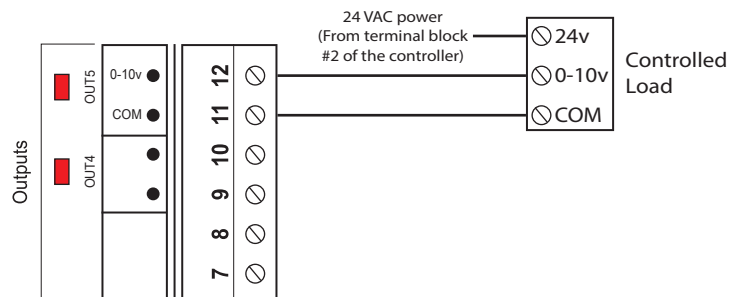

Figure 14 - Connecting the Analog Output (Controller Powered)
1) The C1000 powers the load and provides a control signal (see Figure 14).